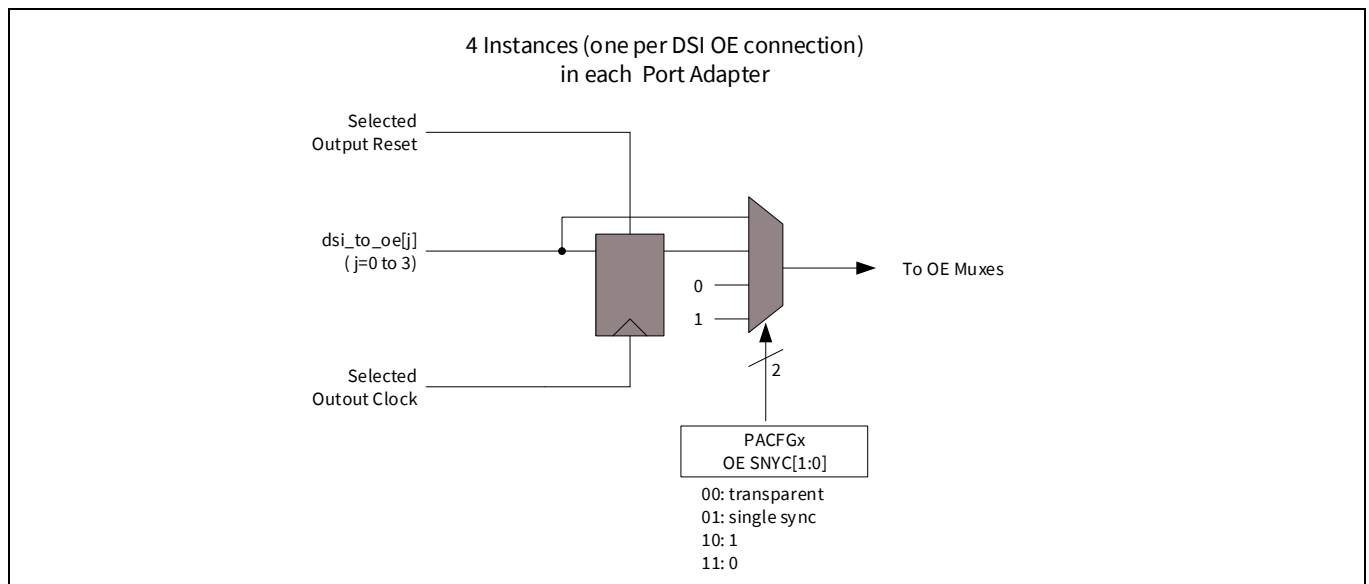
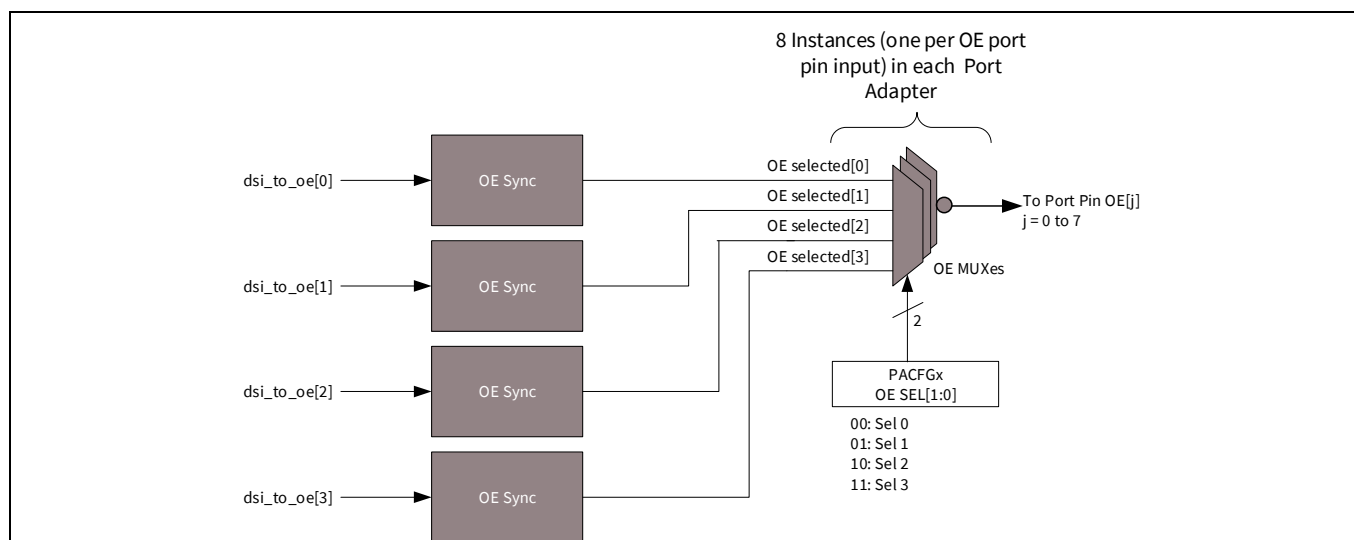

Figure 34-51. GPIO output enable (OE) sync logic
Figure 34-52. GPIO output enable (OE) multiplexers
Figure 34-51 shows the output enable (OE) logic. This circuit shares the clock and reset associated with data output. This connection is unique in that there are four DSI outputs associated with the OE, but these are muxed to a total of four OE connections to the I/O port pins, as **Figure 34-52** shows.